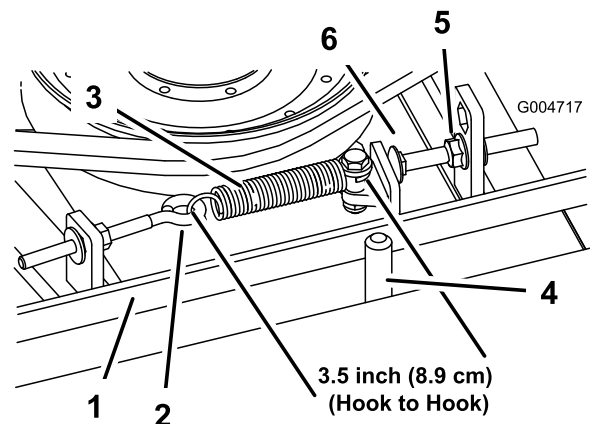

Figure 96
When properly tensioned, the inside measurement of the extension spring (hook to hook) should be approximately 8.9 cm \pm .63 cm (3.50 \pm .25 inch). Once the correct spring tension is attained, adjust the stop bolt (carriage bolt) until there is approximately .32 cm \pm .152/.000 cm (.125 \pm .060/- .000 inch) clearance between the head of the bolt and the idler arm (Figure 96).
Note: Make sure the belt is positioned on the spring side of the belt guide (Figure 96).
2. Loosen the eye bolt allowing the removal of the extension spring (Figure 96).
3. Loosen the flange nut securing the stop bolt to the mounting tab. Back off the nut enough to allow the idler arm to pass by the stop bolt (Figure 96). Move the idler pulley away from the belt to release belt tension.
8. Reconnect the extension spring (Figure 96) to the eye bolt and tension the belt as follows: